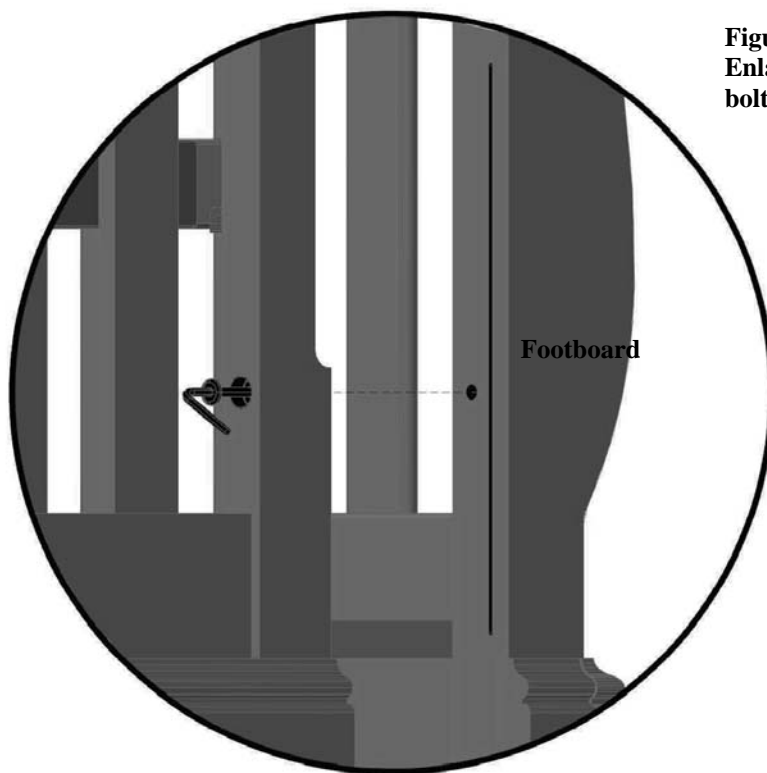

Figure 9.
See Figure 9.
- Using (4) **2 3/8"** connector bolts, loosely attach the footboard as indicated in Fig 9.